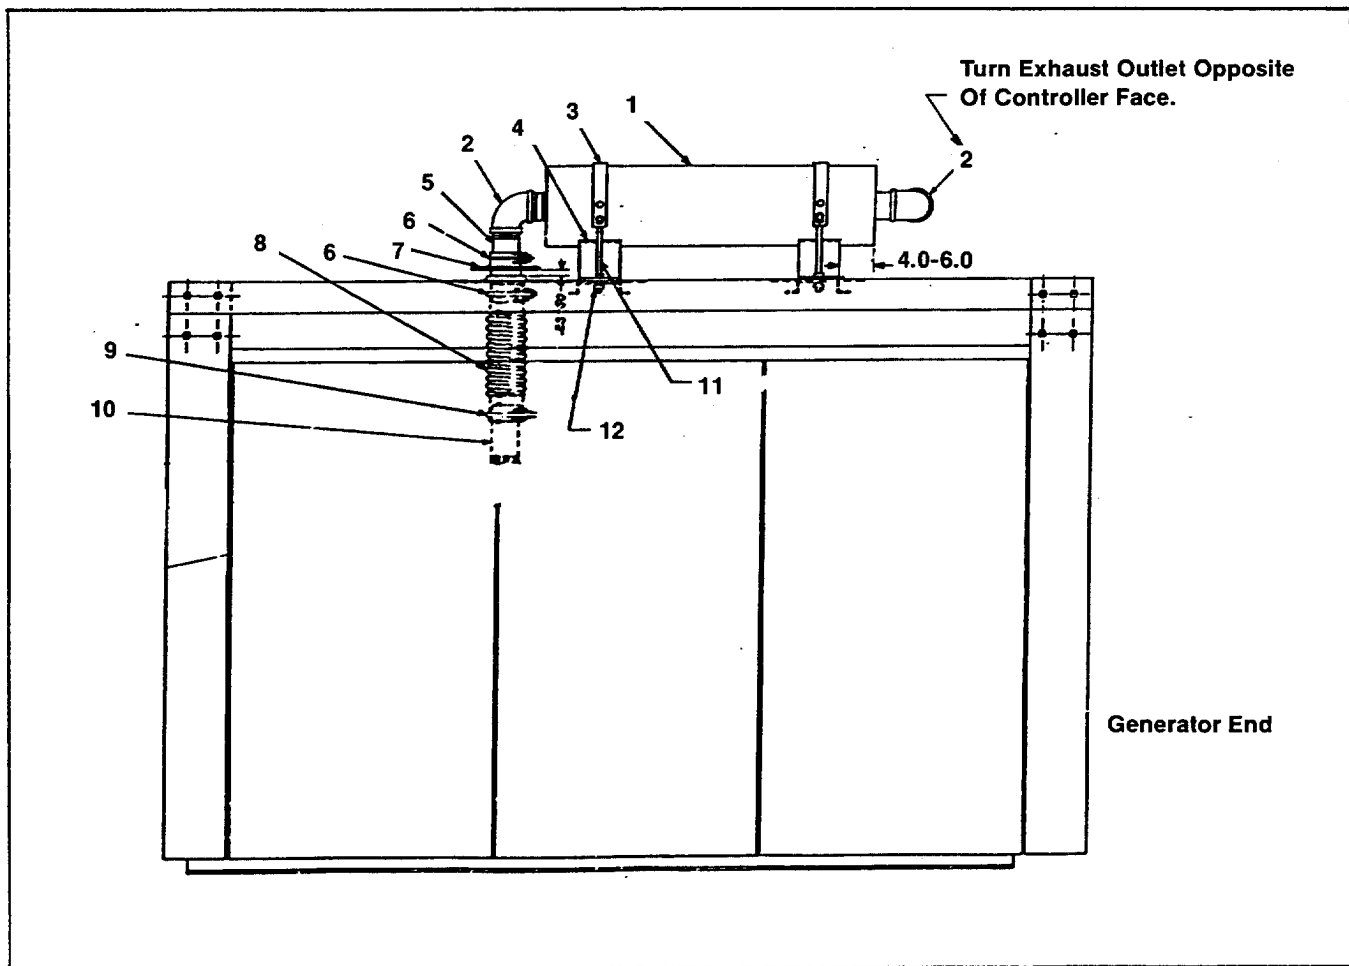

Figure 1. Service Views
The Silencer Kit is designed for installation on a housed generator set. Select the Silencer Kit (critical or residential) appropriate for the application. Refer to the following procedure to install the Silencer Kit. Observe all safety precautions during installation and refer to Figure 1 and the parts listing to locate and identify kit components.
9. Position silencer brackets (290867 or 290866) and silencer (285720 or 289715) on generator housing as shown in Figure 1. Silencer brackets should align with roof supports in generator housing.